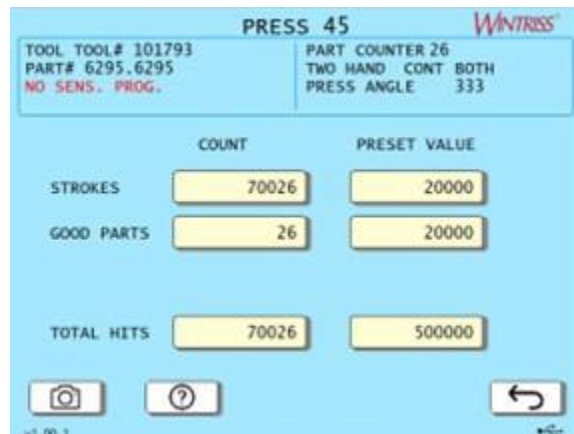

Figure 5-2. Counters Screen
This menu selection allows you to make adjustments to counter settings made in Program mode. Adjustments are entered on the Counters screen (see Figure 5-2), which displays when you press Counters on the Main Run Screen.
1. On the Main Run screen, Figure 5-1, page 221, press Counters. The Counters screen appears, Figure 5-2, showing the preset values set during programming and the current counts for strokes, good parts, and total strokes.